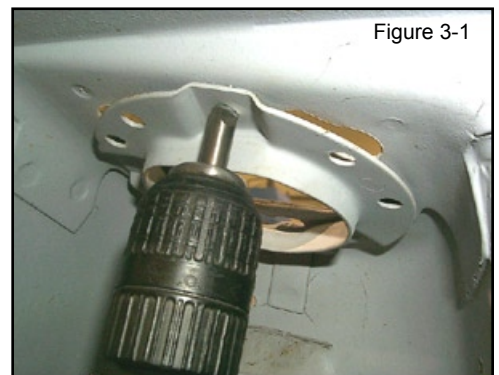

Figure 3-1
Step 2 and Figure 3-1 describe removing the upper spring seat and apply only to vehicles with carriage bolts at the upper shock mounts. (Includes '67-73 Mustang, '66-71 Fairlanes, and others.) Hex-bolt equipped vehicles ('65-66 Mustang and others) have upper spring seats that seat flat against the bottom-side of the shock tower do not require removal and may skip to Step 3 of these instructions.
2. Using the supplied bit, drill out the three spot welds securing the upper spring seat to the shock tower (Figure 3-1). Once you have drilled through the spring seat material, use a pry bar to break the remaining bit of material. Any remaining material must be ground flush and painted.
Figure 3-1 applies only to vehicles using carriage bolts to secure the factory upper shock mount.